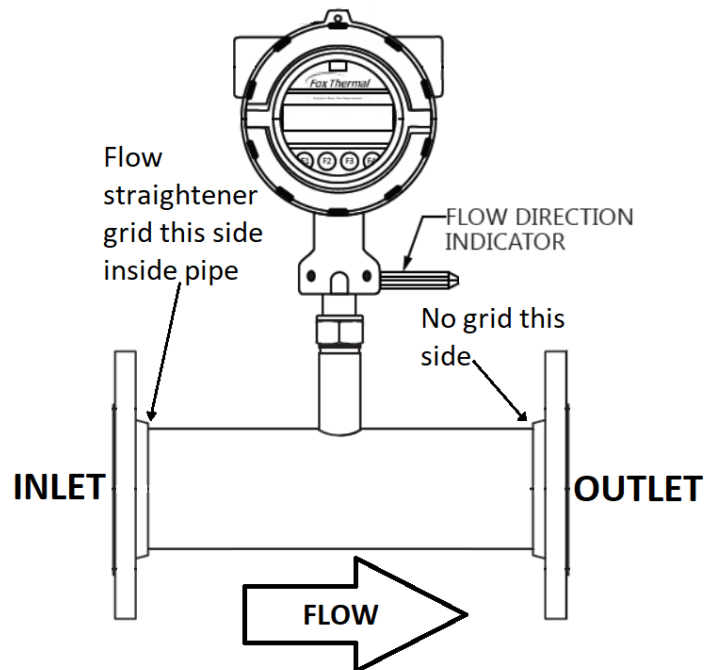

Figure 8: Orientation of Inline Flow Meter – Flanged Version Shown
9. Inline type meters are piped in just like a pipe nipple (for NPT threaded models) or like a flanged spool piece (for ANSI #150 flanged models). The spool piece is directional for both the NPT and the ANSI #150 models – the flow straightener end of the spool piece containing the straightening grid must be installed upstream of the flow meter element. This is shown in Figure 8 below.